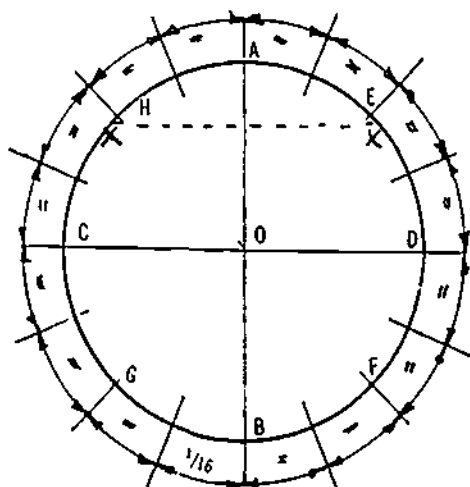

Figure 5-18. Dividing a Circle into 16 Equal Parts.
**Divide a circle into 16 equal parts** Locate the centre of the circle (Figure 5-18), O, and draw the diameters as described in the technique for dividing a circle into 12 equal parts. Bisect angles ADD, DOB, BDC and AOC as described in the technique for bisecting an angle to locate points E, F, G and H. Bisect angles ADE, EOD, DOF, FDB, GOB, GOC, HOC and HOA. The resulting divisions are each equal